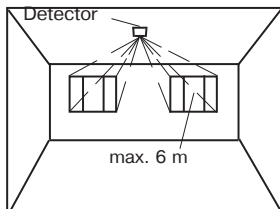
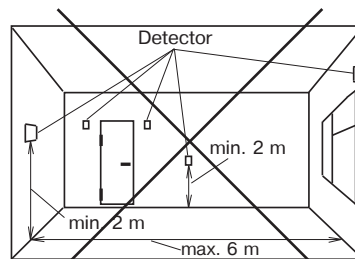

Figure 3 – Installing the Detector on the Ceiling
Figure 7 – Unauthorized Detector Installation Places
- it is recommended to install the Detector at least 2 m height (see examples of installation in Figures 3 – 6);
- distance (L) between the Detector and the farthest point of the monitored glass should not exceed 6 m;
Correct Detector installation options see Figures 3 – 6, the incorrect one – Figure 7.